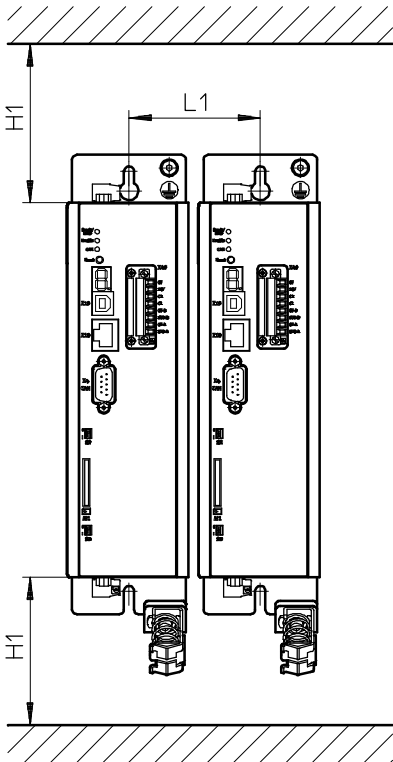

Fig. 3.2 Motor controller CMMP-AS-...-M0: Mounting distance and installation clearance
- The motor controllers of the CMMP-AS-...-M0 family are designed in such a way that they can be mounted directly on a heat-dissipating mounting plate if used as intended and installed correctly. We wish to point out that excessive heating can lead to premature aging and/or damage to the device. With high thermal stress on the motor controller CMMP-AS-...-M0, a mounting distance (➔ Fig. 3.2) is recommended!